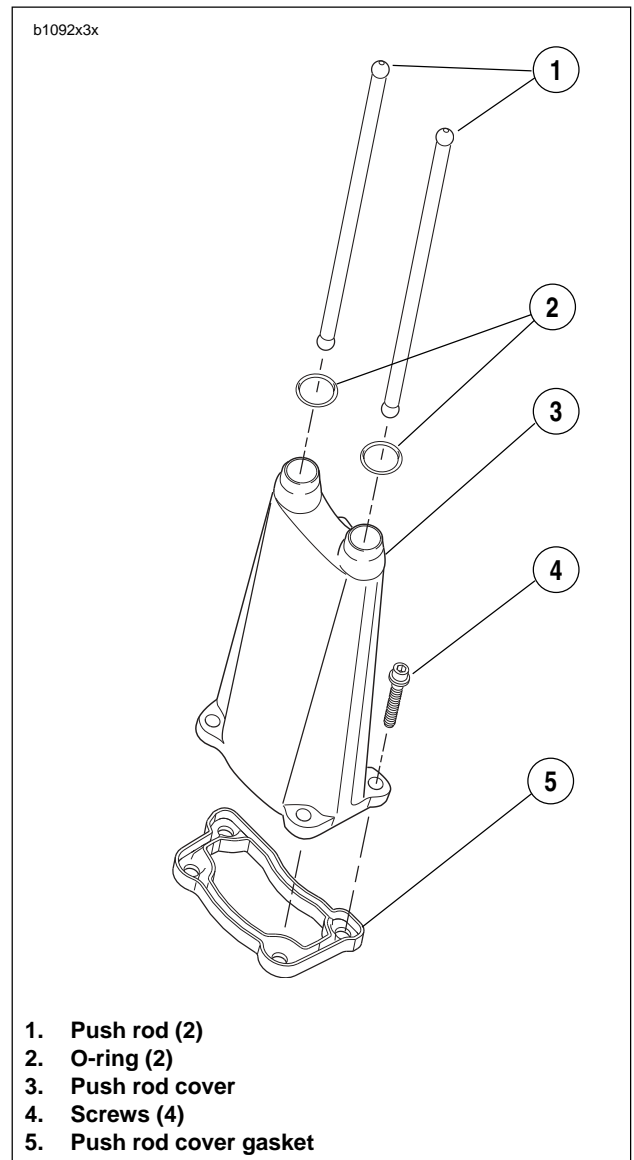

Figure 3-86. Push Rods and Push Rod Cover Assembly
1. See Figure 3-86. Install push rod covers.
- a. Install **new** o-rings (2) on top of each push rod cover (3).
- b. Install **new** push rod cover gasket (5) onto bottom of each push rod cover.
- c. Install each push rod cover assembly and start the fasteners (4) securing the bottom of each cover to the crankcase.